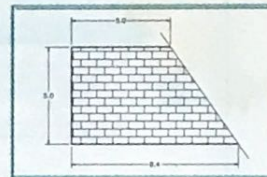

Fig. 20-7
1. Draw the wall shown in Fig. 20-7. Replace the angled break line on the right with an irregular line drawn with the SKETCH command to indicate a continuing edge. Hatch the wall in the brick pattern. Save the drawing as brickwall.dwg.